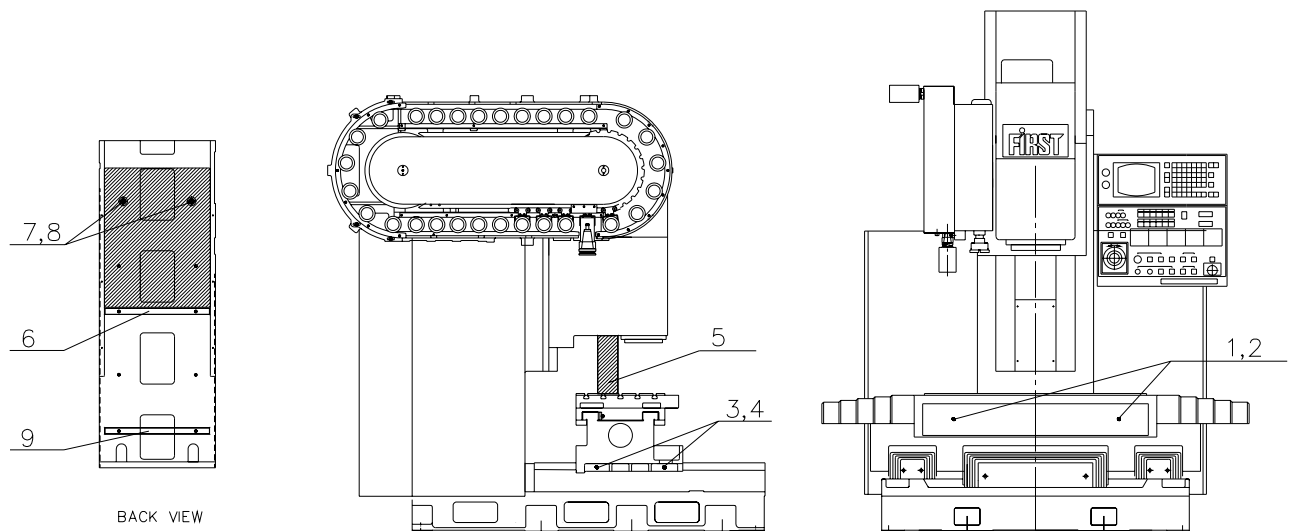

FIG. 3.1 LOCKING DEVICE
3.3.1 ACCORDING TO THE DRAWING FIG. 3.1, REMOVE ALL LOCKING DEVICES USED TO SECURE THE MOVABLE COMPONENTS OF THE MACHINE DURING THE TRANSPORT, SUCH AS Y AXIS LOCKING DEVICES ( 1 AND 2 ), X AXIS LOCKING DEVICES ( 3 AND 4 )